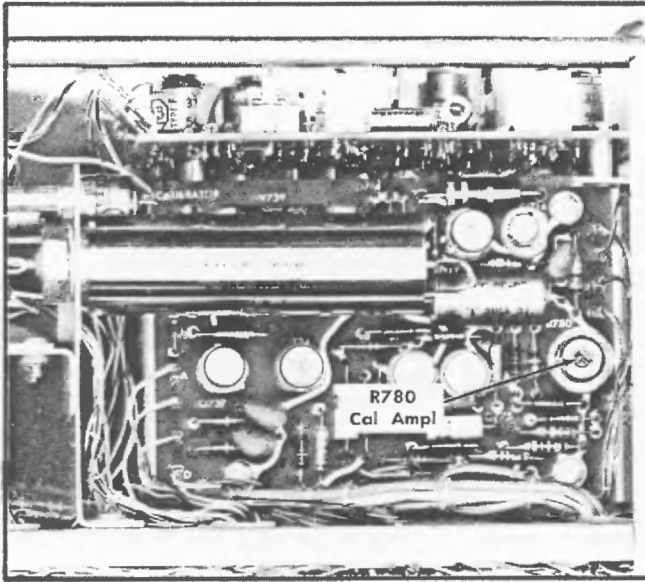

Fig. 6-30. Location of Cal Ampl adjustment (Calibrator and Regulators board).
- f. ADJUST—Cal Ampl adjustment, R780 (see Fig. 6-30) for exactly the same deflection as obtained in step d.